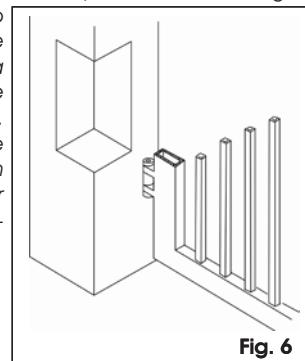

Fig. 6
**⚠ If the dimensions of the pilaster or the position of the hinge do not allow the operator to be installed, to respect the determined dimension **A**, a niche must be created on the pilaster as shown in figure 6. The dimensions of the niche must allow smooth installation of the motor, not limit motor rotation and not obstruct motor release operations.**